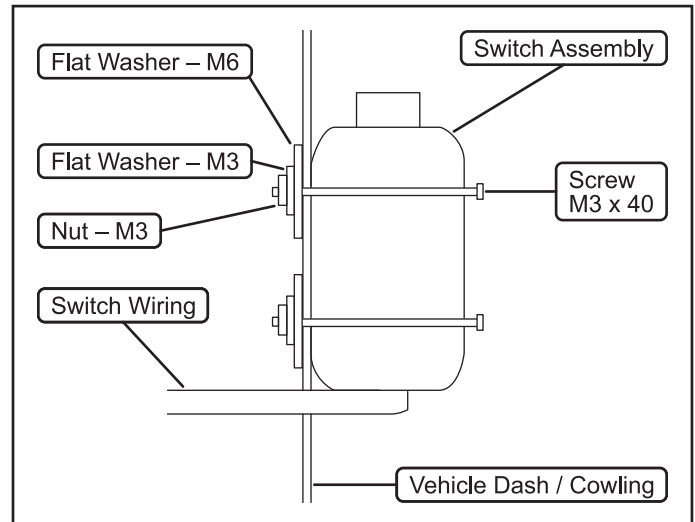

Figure 16. Optional switch mount instructions
**Note:** If your winch includes a handlebar rocking switch; replace the handlebar mount hardware with the included hardware kit DASHHW-OT to mount to the dash. See figure 16.